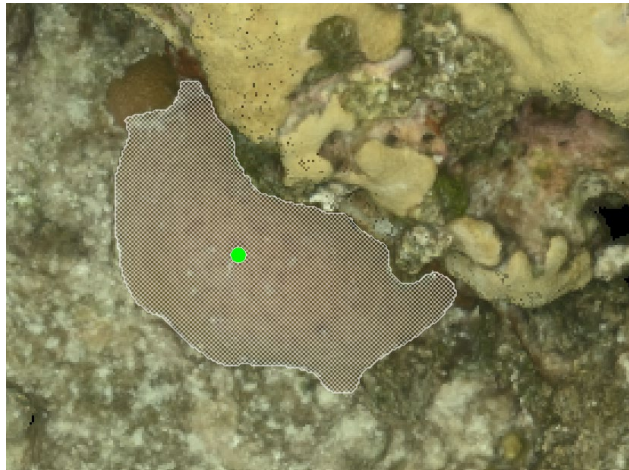

Figure 129. Example of first segmentation.
2. Hold Shift + left-click on a representative area of the coral colony. After a brief pause, a green dot will appear and the coral colony will be partially or completely segmented (Figure 129).